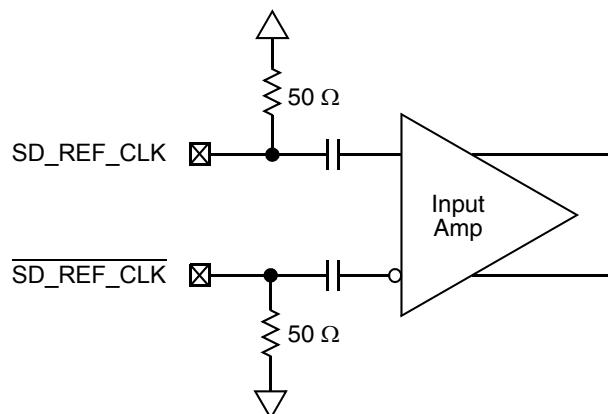

Figure 39. Receiver of SerDes Reference Clocks
Figure 39 shows a receiver reference diagram of the SerDes reference clocks.
- The SD_REF_CLK and $\overline{\text{SD_REF_CLK}}$ are internally AC-coupled differential inputs as shown in Figure 39. Each differential clock input (SD_REF_CLK or $\overline{\text{SD_REF_CLK}}$) has a 50Ω termination to SGND_SRDSn (xcorevss) followed by on-chip AC-coupling.